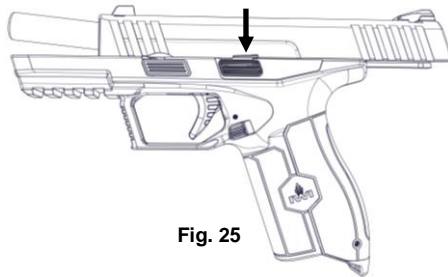

Fig. 25
5. Release the slide by pressing the slide catch lever or by pulling the slide all the way to the rear and releasing. (Fig. 25).